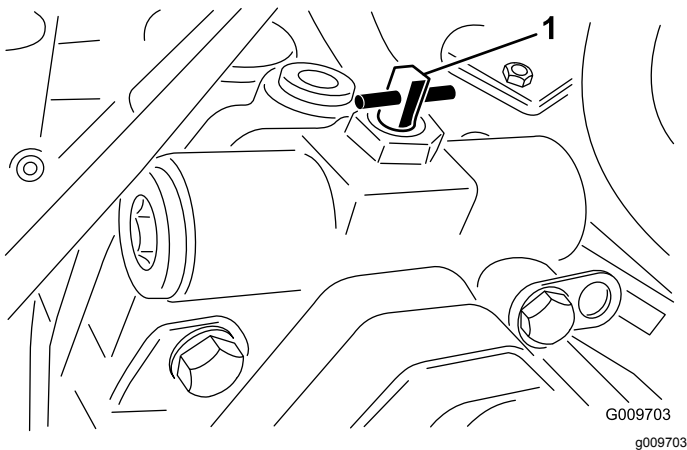

Figure 18
2. Rotate the bypass valve 90° (1/4 turn) in either direction to open and allow oil to bypass internally (Figure 18). Because fluid is bypassed, the machine can be slowly moved without damaging the transmission. Note the position of the valve when opening or closing.